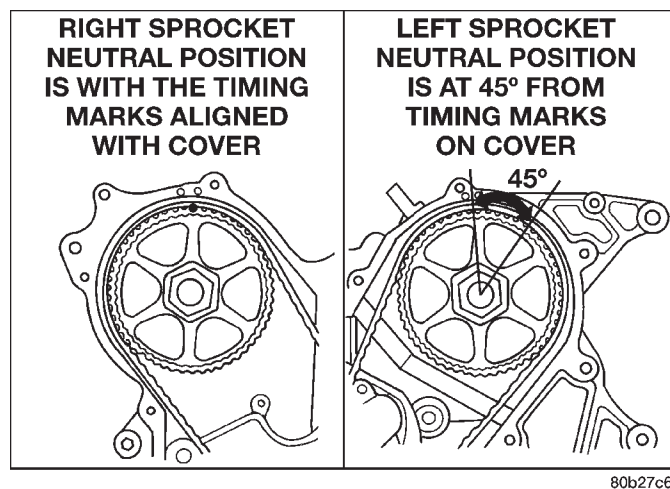
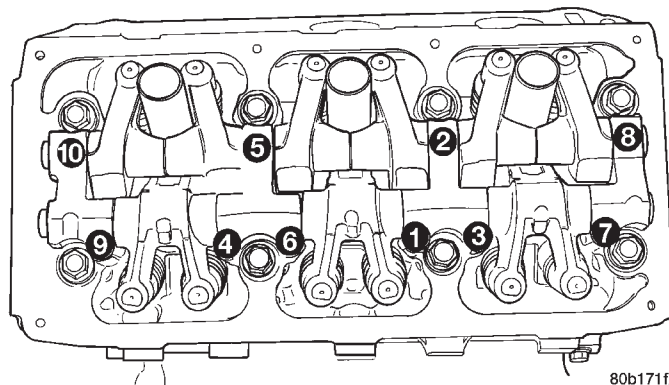

Fig. 57 Camshaft Sprockets Neutral Position
Fig. 58 Rocker Arm and Shaft Assembly Tightening Sequence
(1) Rotate camshafts to the position shown in (Fig. 57). With the camshafts in these positions the lobes are in a neutral position (no load to the valve). This will allow the rocker arm shaft assembly to be tightened into position with little or no valve spring load on it.
(2) Install the rocker arm and shaft assembly making sure that the identification marks face toward the front of engine for left head and toward the rear of the engine for right head.
(3) Tighten bolts in sequence to 31 N·m (275 in. lbs.) (Fig. 58).